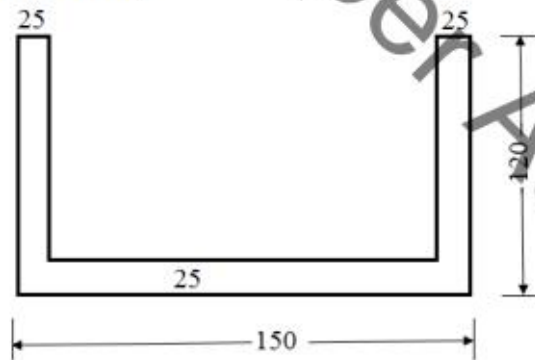

Figure 3
8. A horizontal beam of the section is shown in Figure 3, is 3.0 m long and is simply supported at the ends. It carries an udl of intensity 6.56 kN/m over the entire span. Determine the stresses developed in the extreme fibers of compression and tension zones. (All dimensions are in mm). [15]